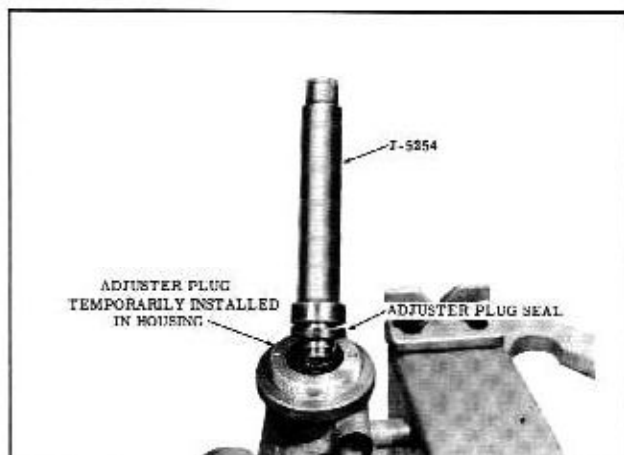

Fig. 4-49 Installing Seal
2. If seal was removed, temporarily install the adjuster plug in the gear housing and place dust seal and a new oil seal on Tool J-5254 (lip of seal away from tool). Lubricate seal with Hydra-Matic oil and drive or press seal into adjuster plug just far enough to provide clearance for the retaining ring. (Fig. 4-49) Tool J-5254 must be free of burrs that could scratch the seal.